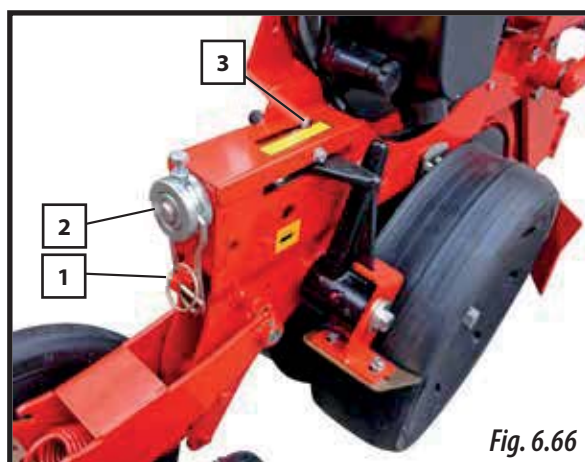

Fig. 6.66
- 1- Remove the pin (1, Fig. 6.66) to free the crank (2, Fig. 6.66).
- 2- Turn the crank to set the desired planting depth. For this purpose, use the depth indicator (3, Fig. 6.66).
- 3- Once the planting depth has been set, lower the crank (2, Fig. 6.66) and place the pin (1, Fig. 6.66) to fix the planting depth.